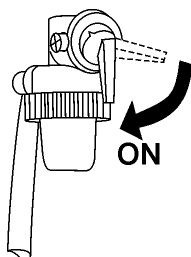

Figure 15. Engine Fuel Valve Lever (ON)
1. Place the engine fuel valve lever (Figure 15) in the **ON** position.